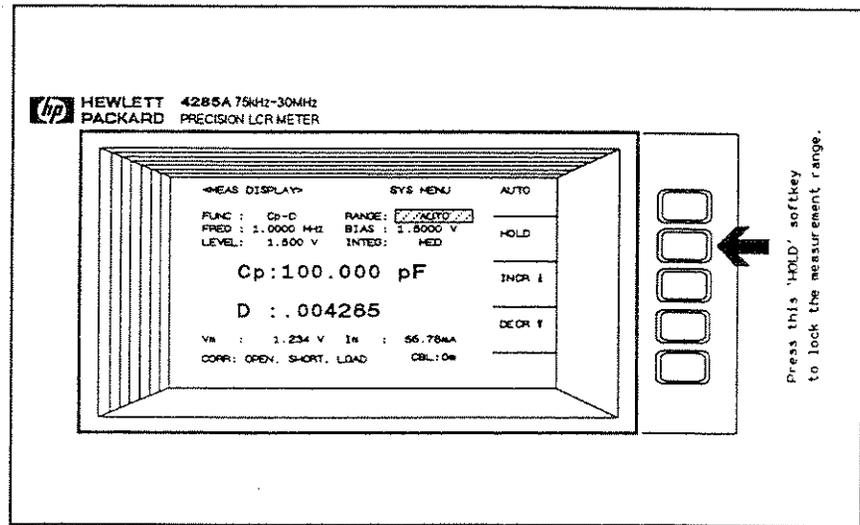

Figure 3-7. Softkey Selection Example
3. The softkeys corresponding to the field pointed to by the CURSOR will be displayed. Select and press a softkey. (Refer to Figure 3-7.)